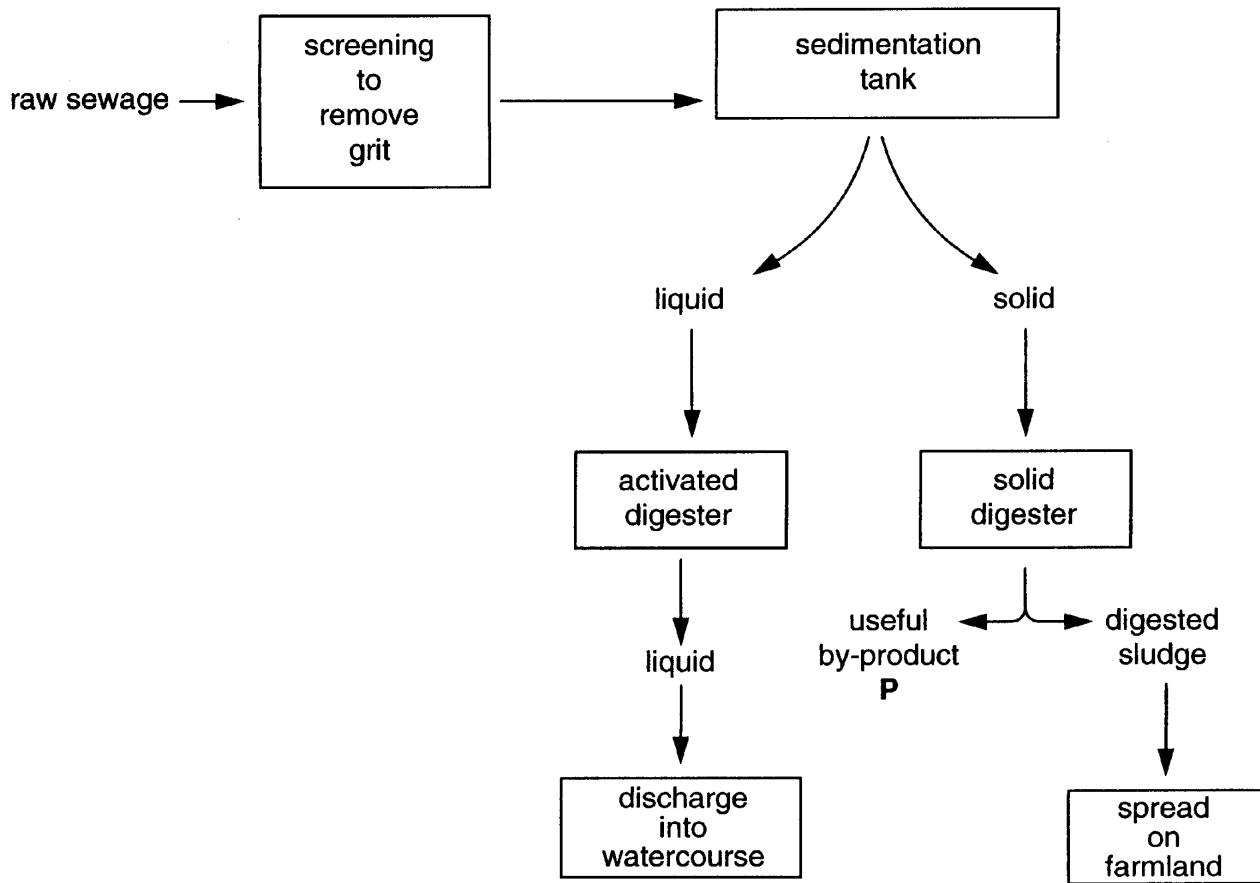

Fig. 6.1
6 Fig. 6.1 is a simplified diagram of part of a sewage treatment process.
- (e) With reference to Fig. 6.1, describe and explain how the process that occurs within the solid digester produces a useful by-product, **P**.